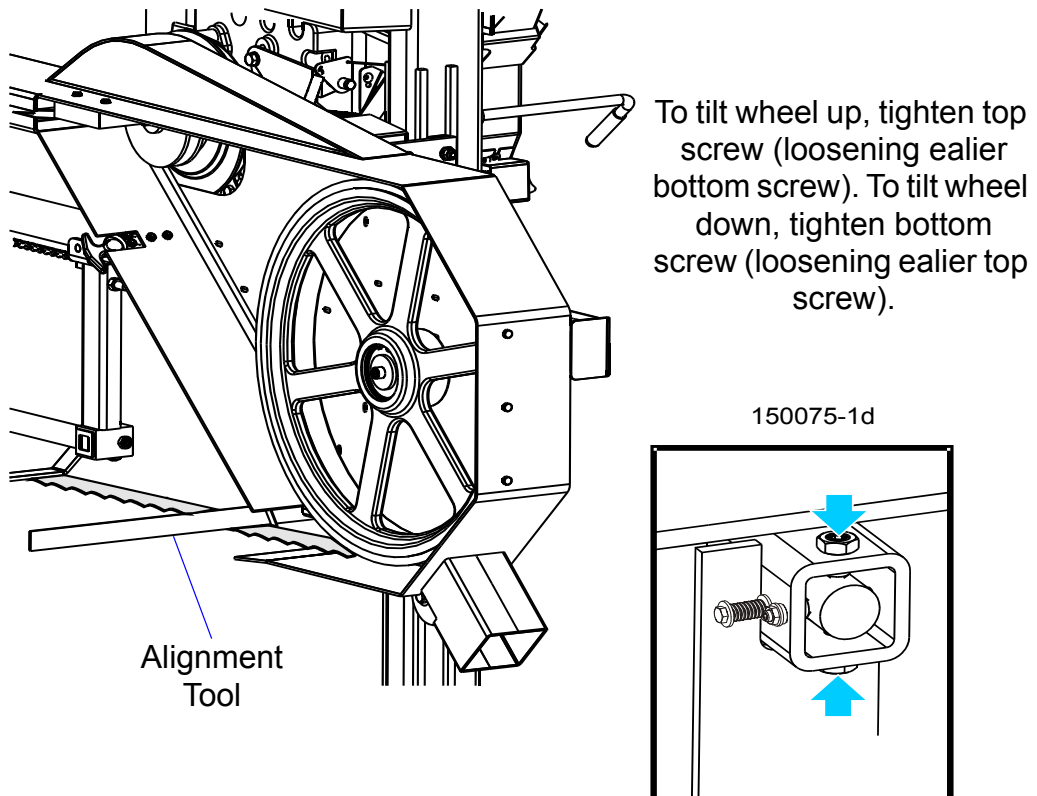

FIG. 3-5
**See Figure 3-5.** To tilt the drive-side blade wheel down, loosen the top adjustment screw, loosen the nut on the bottom adjustment screw and tighten the bottom screw. Tighten the top and bottom nuts.